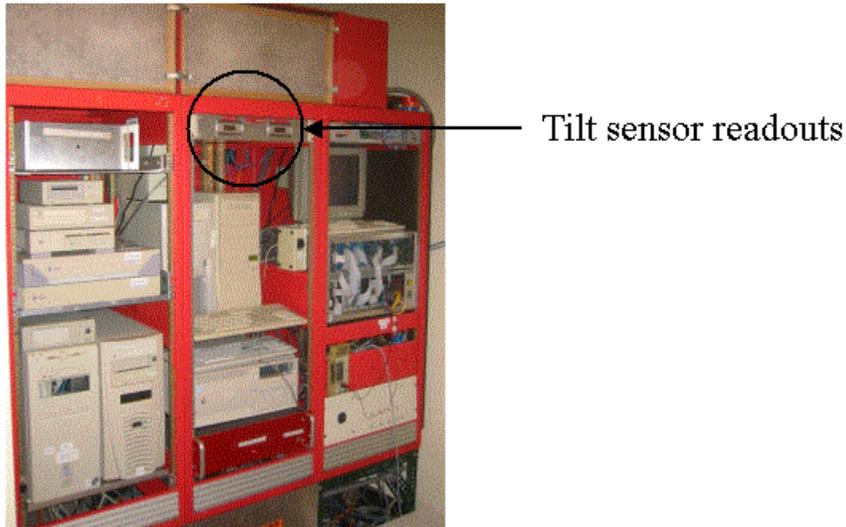

Figure 6. Tilt sensor readouts in the computer room.
11. Move the telescope to the exact zenith as follows. Use the hand paddle controls in the observing room while watching the tilt sensors. The tilt sensors are small LCD displays in the computer room at the top of the second rack from the right (see Figure 6 below). The telescope should be moved until both the east/west and north/south displays read 000.